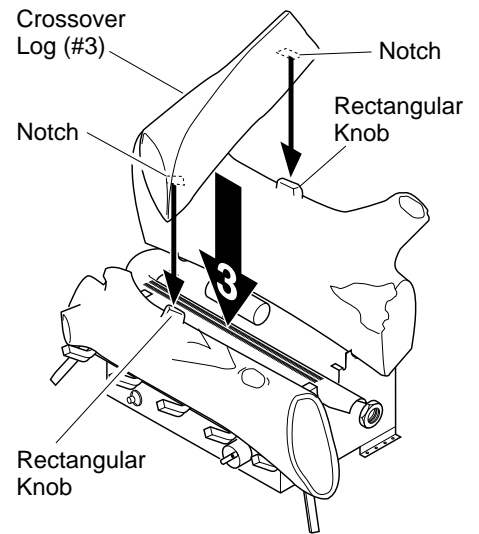

Figure 18 - Installing Crossover Log
3. Locate the notches in the bottom of the crossover log (#3). Place the crossover log on top of the back log and front log. Make sure the notches of the crossover log line up with rectangular knobs on top of the back and front logs (see Figure 18).